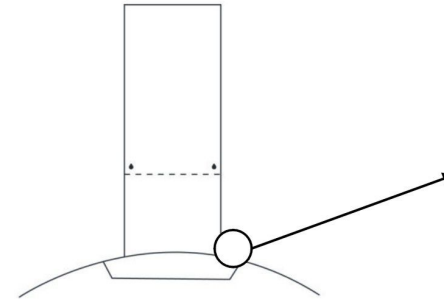
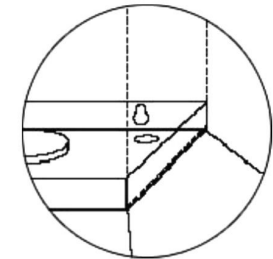

Figure 3A
Figure 3B
12. Make sure the cooker hood is level horizontally and not tilted. Mark the locations of the hanging bracket holes on the wall as shown in Figure 3A and Figure 3B.